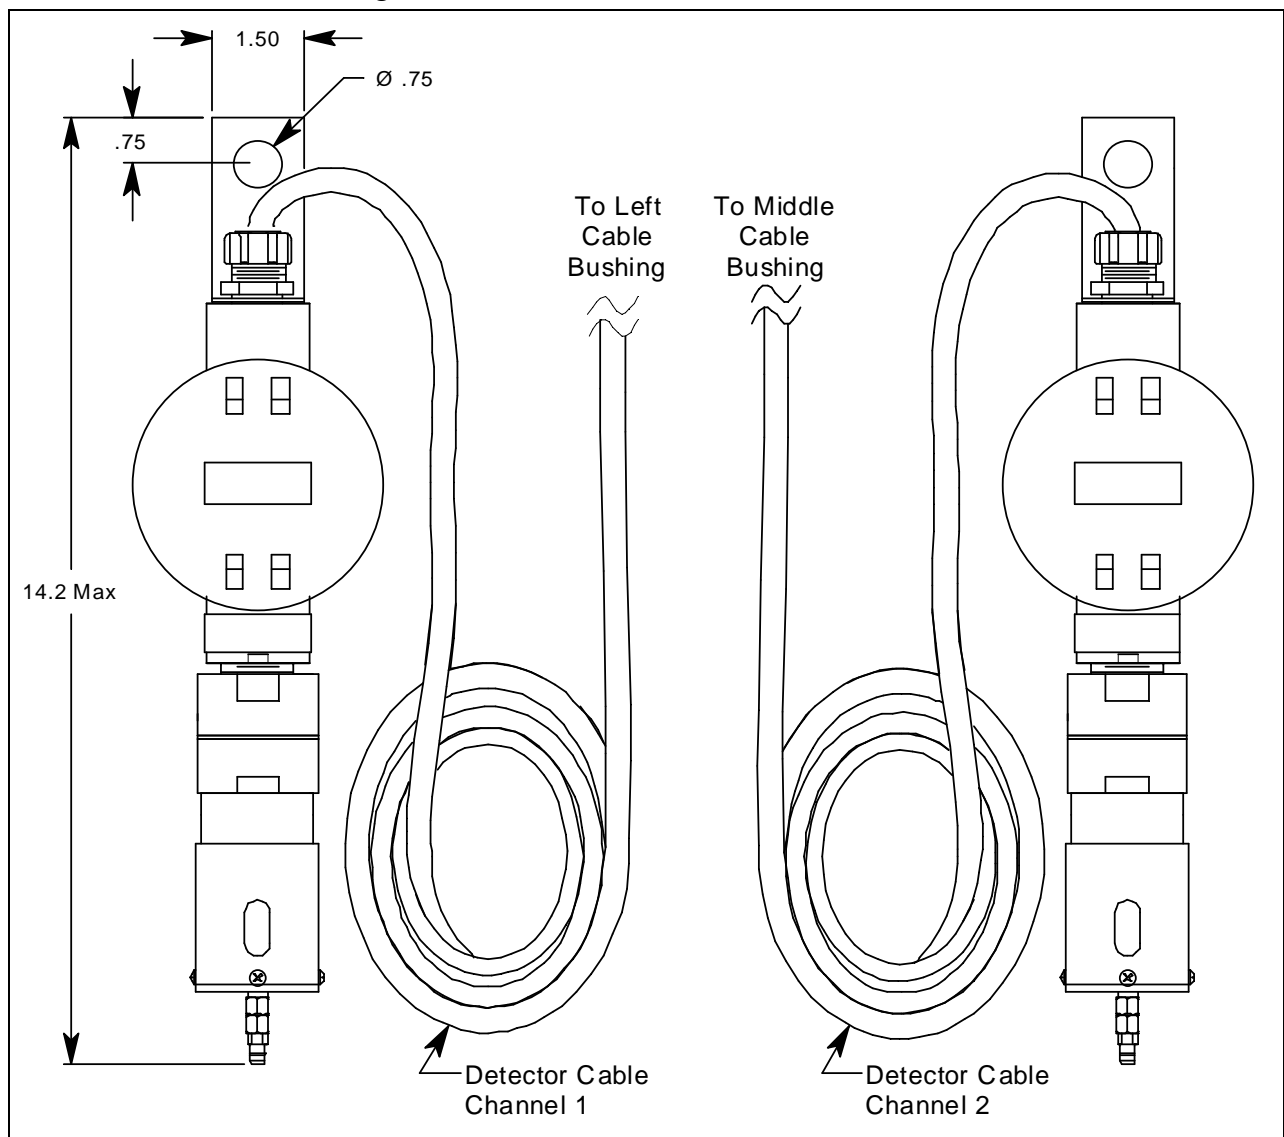

Figure 7. H₂S Detector Outline and Mounting Dimensions
5. Connect the DC wires to the controller terminal strip as shown in Figure 7.